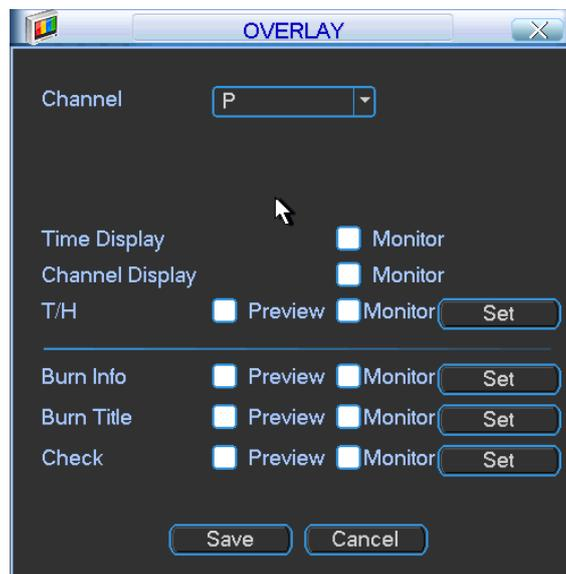
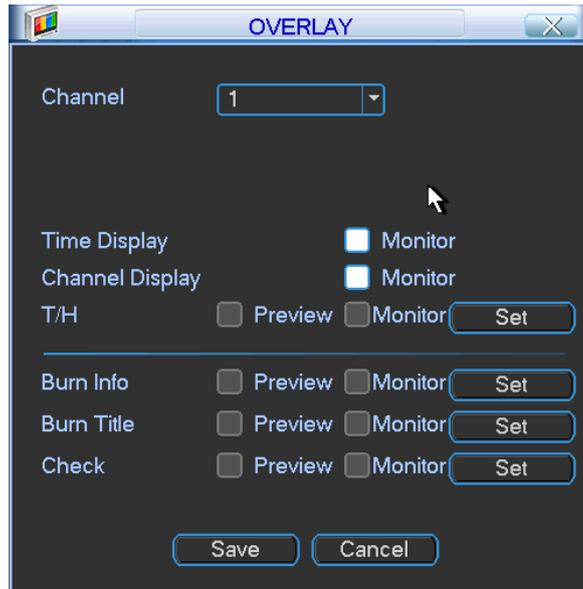

Figure 4-110
Figure 4-111
- Overlay setup: Click set button, the interface is shown as in Figure 4-110 if you select PIP channel. The interface is shown as in Figure 4-111 if you select channel 1/2/3/4.